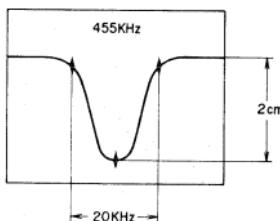

Fig. 13
- Connect Genescope output to Test Point (TP) and Genescope Input to Point (8) (AF Output).
- Adjust cores of IFT, T1, T2, and T3 of AM IF Amp P.C. Board so that the waveform (Fig. 13) level is maximum and center frequency is 455 kHz (Center frequency differs according to country. Adjust according to country's center frequency).